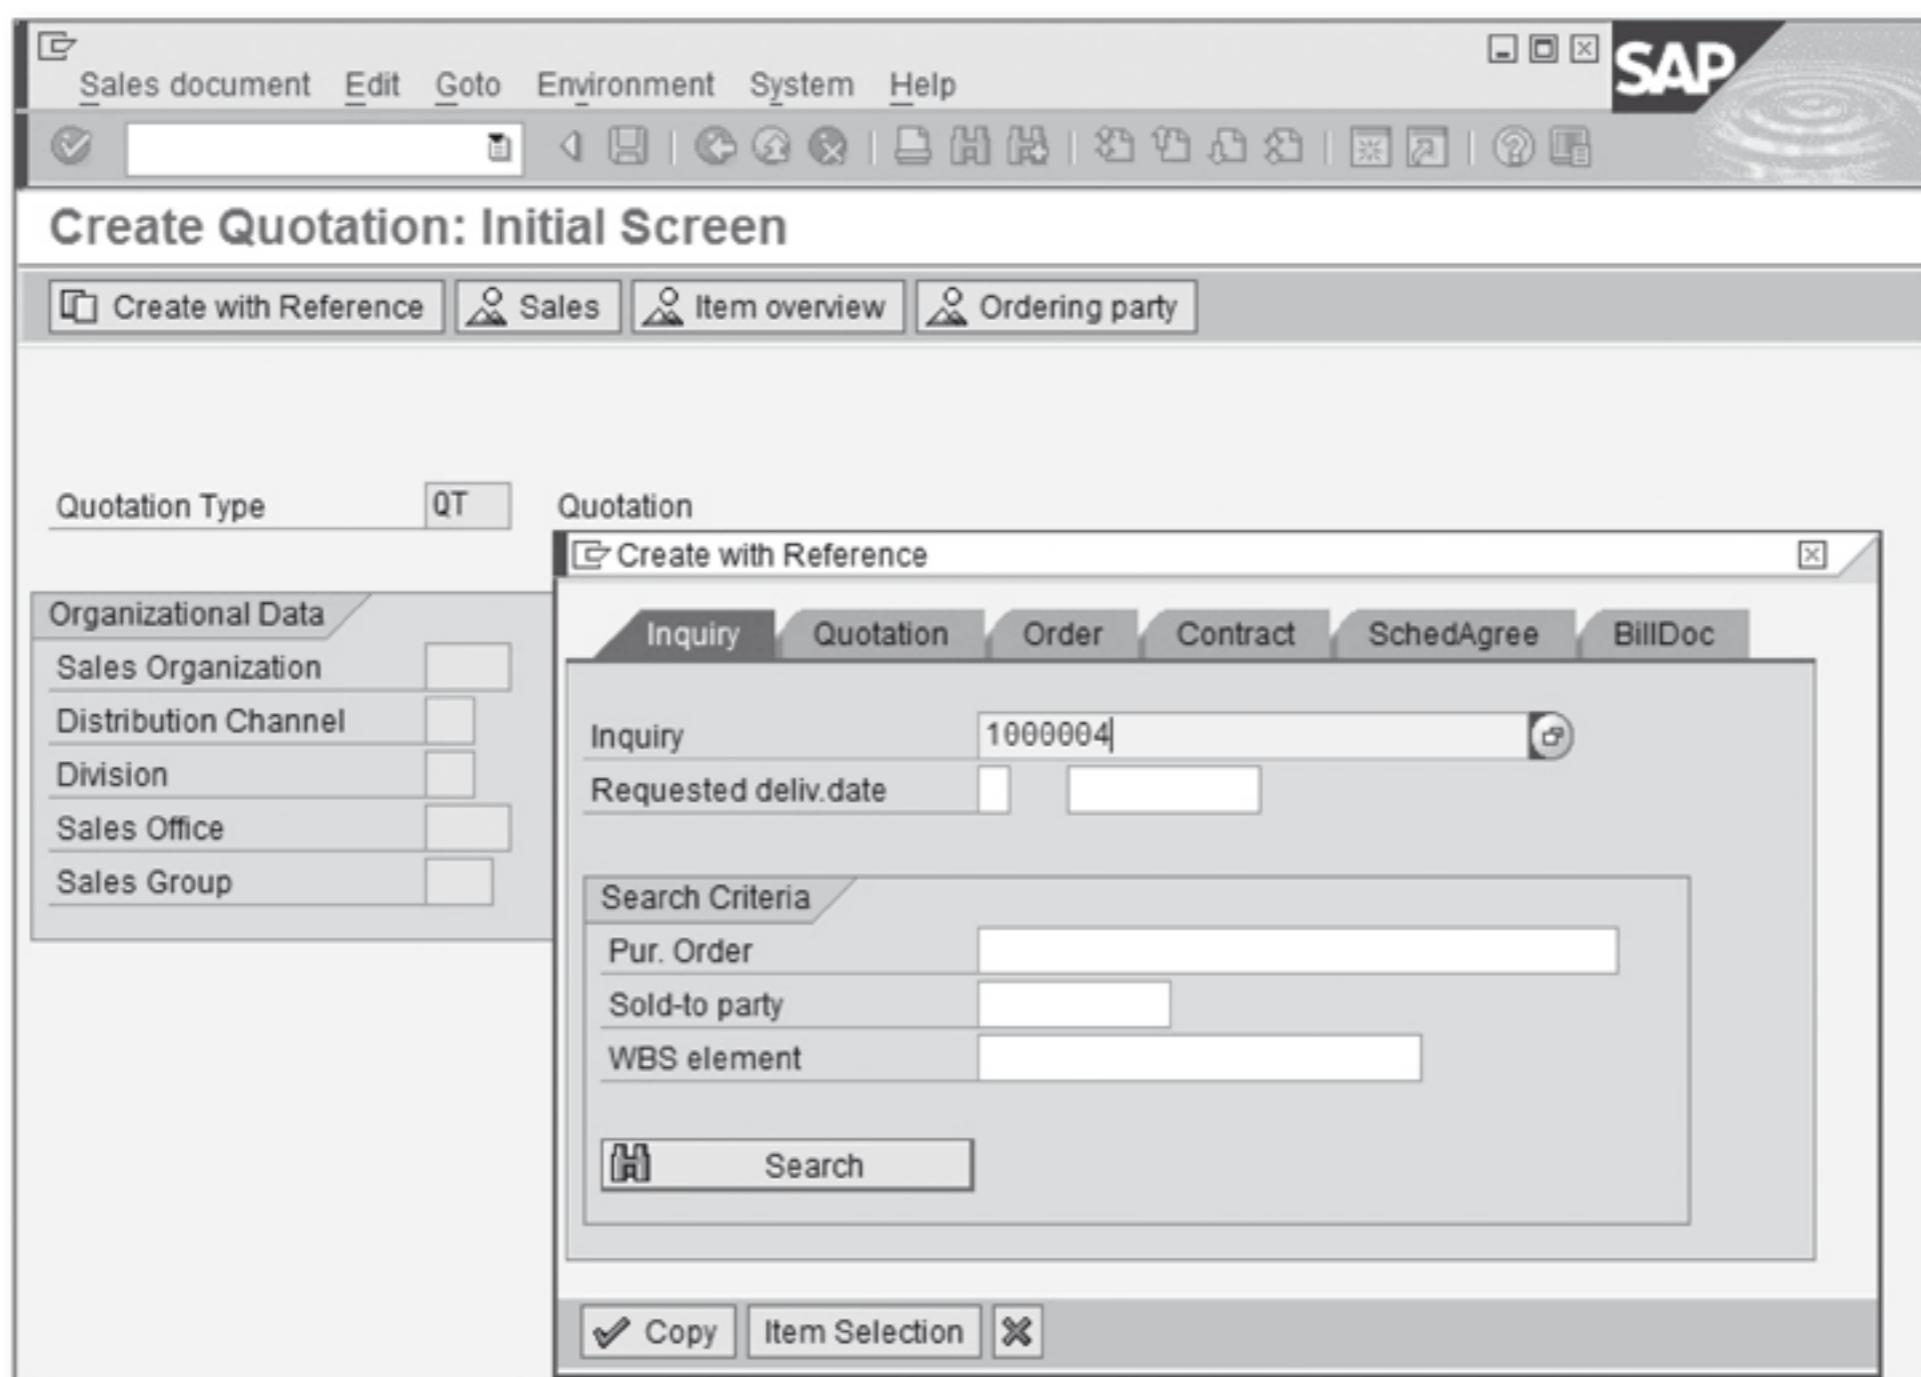

Figure 3.7 Create Quotation: Initial Screen – Create with Reference
1. On the Create Quotation: Initial Screen, enter the quotation document type and then click the Create with Reference button, as shown in Figure 3.7.